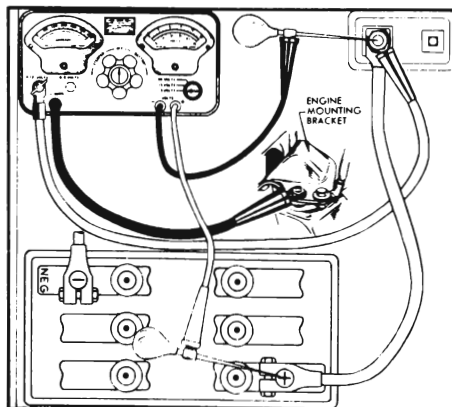

Figure 10-5—Battery Cable Test Connections
2. Connect ammeter positive (+) lead to battery terminal stud on junction block. Connect ammeter negative (-) lead to one side of rheostat and connect other side of rheostat to ground on engine, preferably at point where battery ground strap is attached. In the instrument shown in Figure 10-5 the ammeter and rheostat are connected in series inside the case.
3. Connect voltmeter negative (-) lead to battery terminal stud on junction block. Use a prod with voltmeter lead, if necessary, to insure direct contact with the terminal stud. Do not connect to the ammeter lead clip. Attach a prod to voltmeter positive (+) lead and apply the prod to center of battery positive (+) post (Figure 10-5). Make sure that clips of voltmeter leads have clean metal contact with prods.